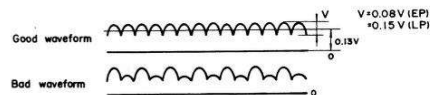

Figure 7-2
1) HALL DEVICE (Refer to Figures 7-2 and 8-2)
2. Adjust the semi-variable resistor (VR1104) so that good waveform indicated in Figure 7-2.